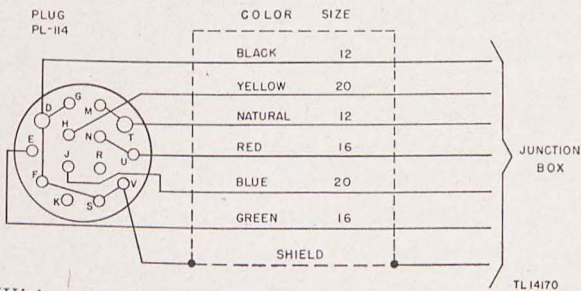

Figure 18. Wiring diagram of Cords CD-269, CD-270, CD-360, CD-411, CD-422, CD-434, and CD-474.
- (3) Wiring diagrams of cords used with Radio Set SCR-193-(*) (figs. 18 through 23).
- (4) TM 11-800. This manual contains schematic diagrams, voltage and resistance charts, and trouble-shooting charts for Radio Transmitter BC-191-().
- (5) TM 11-850. This manual contains schematic diagrams, voltage and resistance charts, and trouble-shooting charts for Radio Receiver BC-312-().
- (6) 11-934. This manual contains schematic diagrams, voltage and resistance charts, and trouble-shooting charts for Dynamotor Unit BC-77-().
The accompanying trouble-shooting charts, if properly used, simplify trouble shooting. The chart in paragraph 48 covers the sectionalization of trouble in Radio Set SCR-193-(*). This chart lists symptoms which may be recognized easily by the operator, and gives the probable location of the trouble as well as the recommended correction. It tells the operator whether the trouble is in the receiver, the transmitter, the dynamotor, or the cording. By following the steps in the chart, the operator can isolate the fault to one particular component, and thus save time that might otherwise be lost in checking components which are free of trouble. The chart in paragraph 51 covers the wiring in the cords between the receiver and the transmitter through the junction box. The first chart will be used mainly by the operator, while the second chart will be used by the repairman. Wiring diagrams for all cords except those for the key, the loudspeaker, and the battery are shown in figures 18 through 23. For all other trouble-shooting information, refer to the technical manuals for the components.